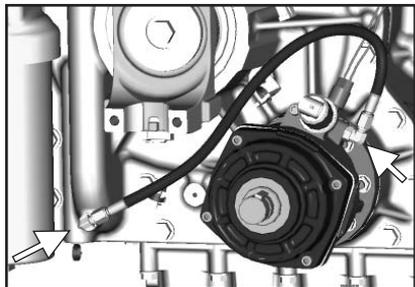

Fig. 6
7. Install the 90° elbow in the transmission pressure port as shown. Connect hose to the transmission pressure port as shown. Connect other end of hose to the P.T.O. 90° elbow located near the P.T.O. solenoid. (**Fig. 6**)